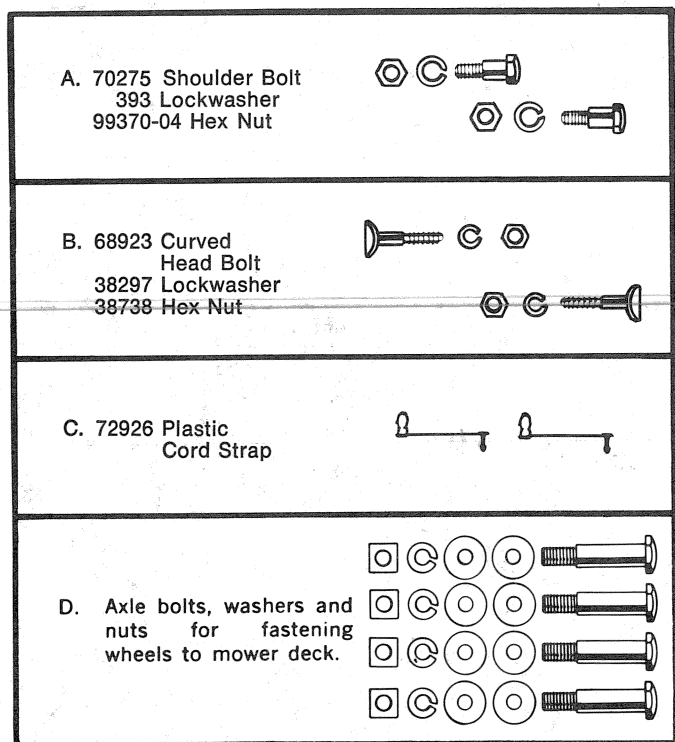
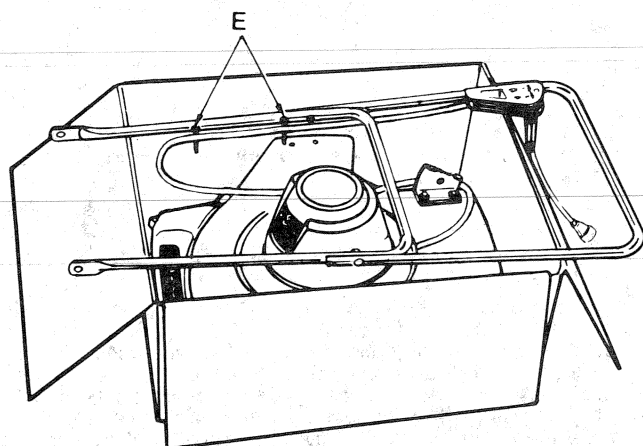
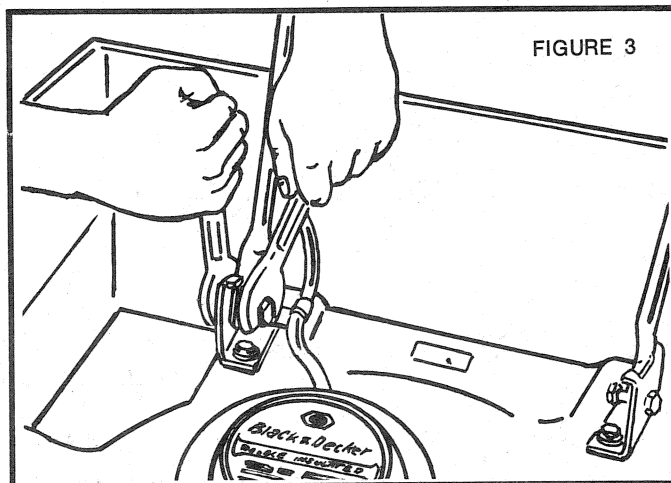

FIGURE 1
FIGURE 2
FIGURE 3
1. Open carton and remove cardboard fillers and plastic hardware bag(s) (contents shown in Figure 1).
2. Without removing mower from carton, insert larger, hollow end pegs on plastic straps (Item "C", Figure 1) into holes in lower handle section at location "E", Figure 2. (These straps will be used later in step 4 to hold the cord close to handle.)
Fasten upper and lower handle sections together (Figure 2) with curved head bolts, hex nuts and lockwashers (Item "B", Figure 1). Handle must be assembled so that plastic straps "E" (Figure 2) are on the same side as the grass discharge opening.
3. Attach handle to mower deck with 2 shoulder bolts, lockwashers and nuts (Item "A", Figure 1). Squeeze handle legs together slightly to fit them into mounting brackets. Lockwashers go on outside under nuts. Tighten with two wrenches as shown in Figure 3.